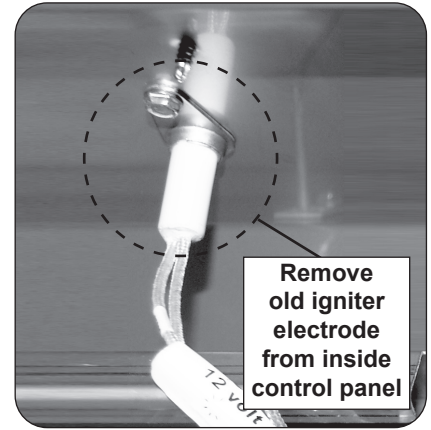

Fig. 5-1 Remove old igniter
10. Remove the old igniter electrode from inside the control panel using a 1/4" hex nut driver. See Fig. 5-1.